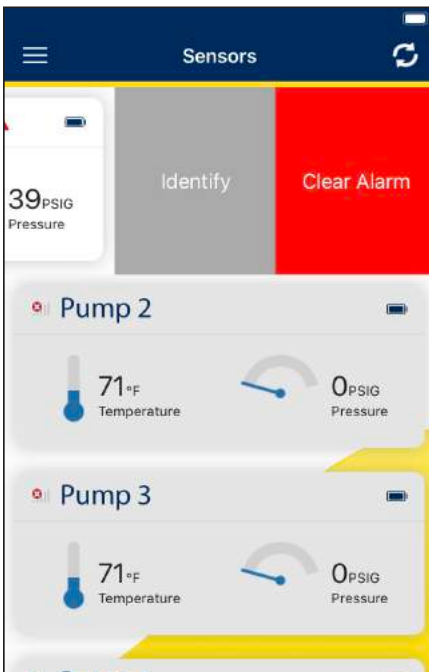

Figure 31
1. Swipe left on the desired sensor. The identify/clear alarm option will appear (see figure 31).
2. Tap to select **Clear Alarm** (figure 31).